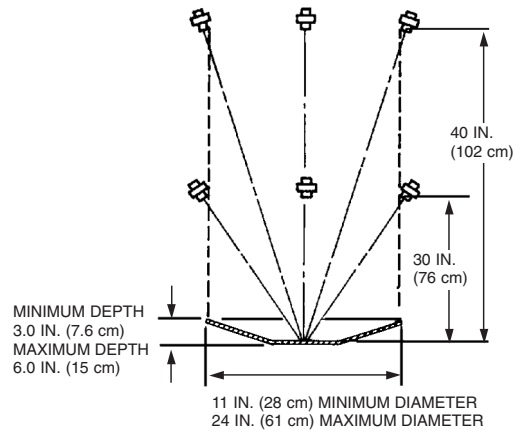

FIGURE 57
2. A 1N Nozzle, Part No. 419335, will protect a wok 11 in. (28 cm) minimum diameter up to 24 in. (61 cm) maximum diameter. The wok depth must be no less than 3 in. (8 cm) and no greater than 6 in. (15 cm). The nozzle tip is stamped with 1N indicating that this a one-flow nozzle and must be counted as one flow number. When using this nozzle, the nozzle must be positioned anywhere along or within the perimeter of the wok, aimed at the center, 30 in. to 40 in. (76 to 102 cm) above the hazard surface, as shown in Figure 57.